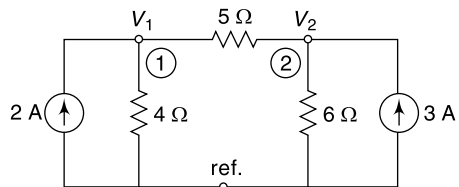

Fig. 4.122 Circuit of Ex. 4.91
4.91 In the circuit shown in Fig. 4.122 determine the voltages at nodes 1 and 2 with respect to the reference point.